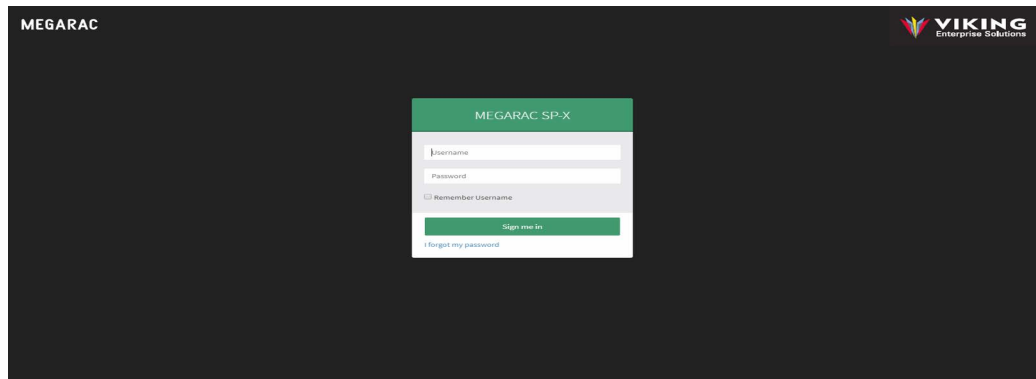

Figure 4.4 BMC WebUI login
2. The BMC WebUI login screen displays as shown in Figure 4.4.